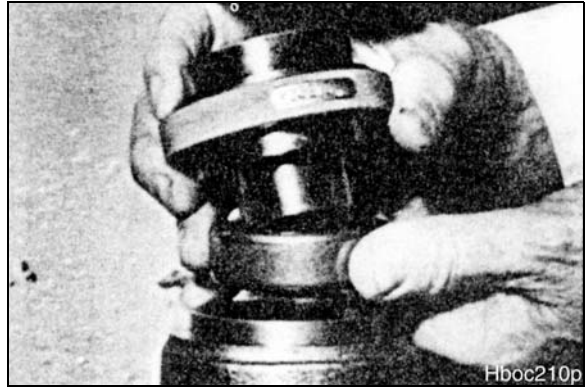

Figure 36
Large Frame Series MB and ME Torqmotor™ housings require the use of the bearing mandrel shown in figure 2 to press bearing (19) into the housing to a required depth of 0.290/0.310 inches (7.37/7,87 mm) from the outside end of the bearing counterbore. See Figure 36.